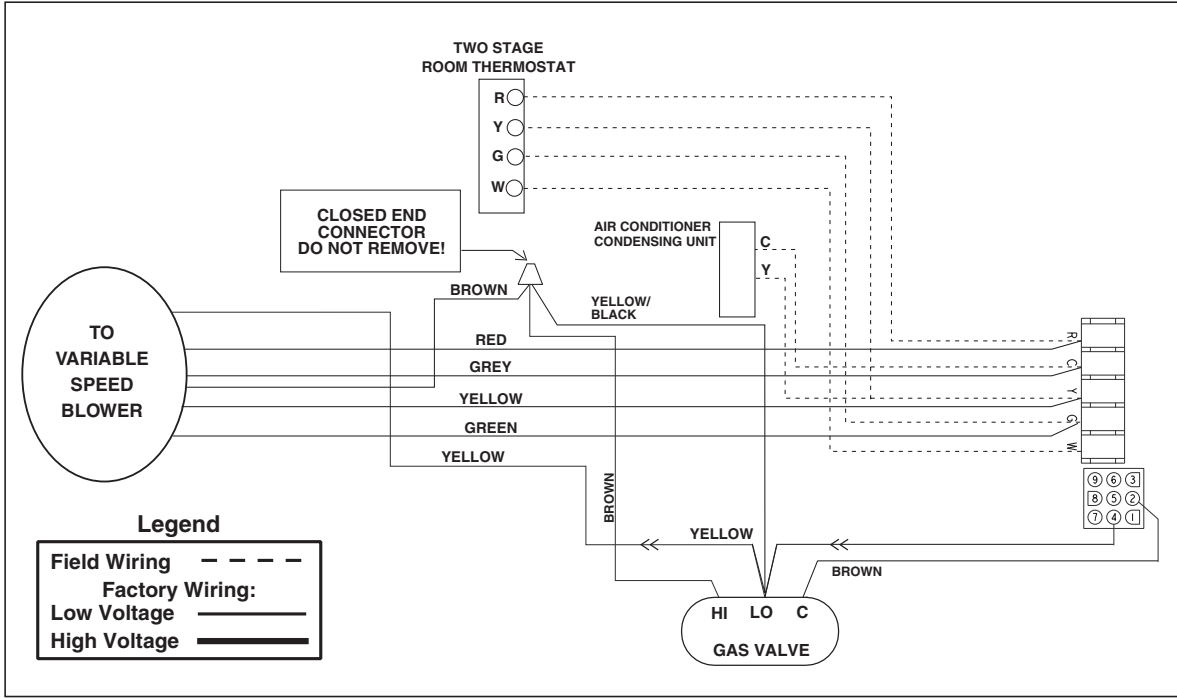

Figure 21. High Fire Only Configuration
2. *High fire only configuration* – As shipped from the factory, the low and high terminals on the gas valve are connected in parallel (See Figure 21). This defeats the staging feature and the furnace operates on high fire only. All of the burners will operate on a call for heat and the variable speed blower will operate at a higher speed.